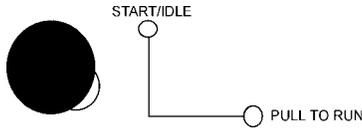

Figure 63. Engine Throttle Lever (low)
2. Turn the Engine Throttle Handle (Figure 63) to the left and push in to set the speed to 'low'.